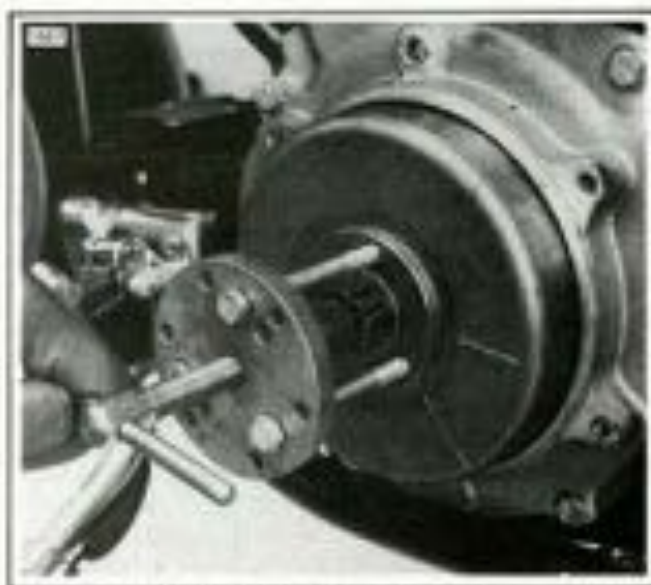

Figure 8-19. Pulling the Rotor
### Output Check (Figure 8-19)
2. See Figure 8-19. Pull the alternator rotor using the ROTOR PULLER, Part No. HD-95960-52A.